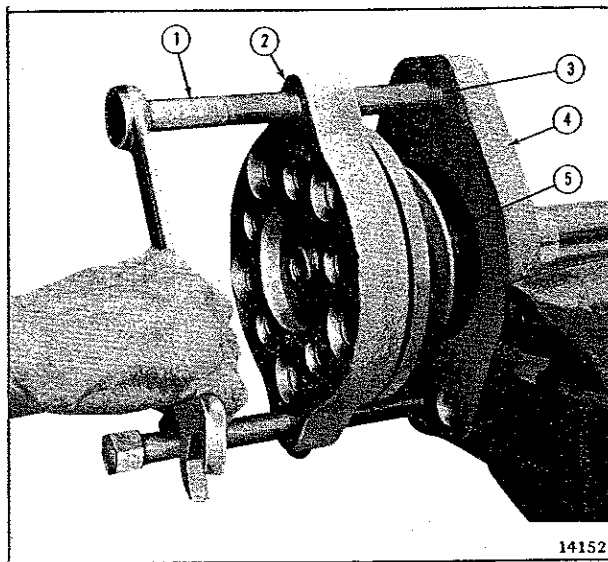

FIG. N-10—REMOVING AXLE SHAFT BEARING
j. Attach puller tool W-343 to axle shaft using the flange stud nuts. Position puller bolts against dimples of holding ring and alternately tighten until bearing is pressed from shaft, as shown in Fig. N-10.